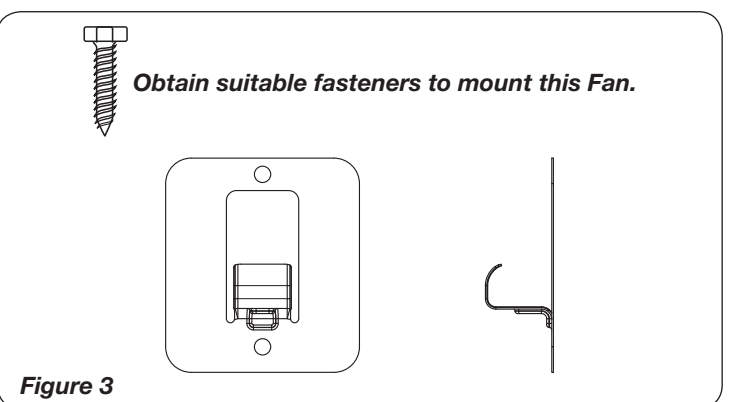

Figure 3
Your Fan may be wall mounted using the new QuickMount® wall bracket supplied with your Fan. (Figures 3 and 4)
3. Fasten wall bracket to mounting surface using 2 appropriately sized fasteners. Drill pilot holes as necessary. (See Figure 3).